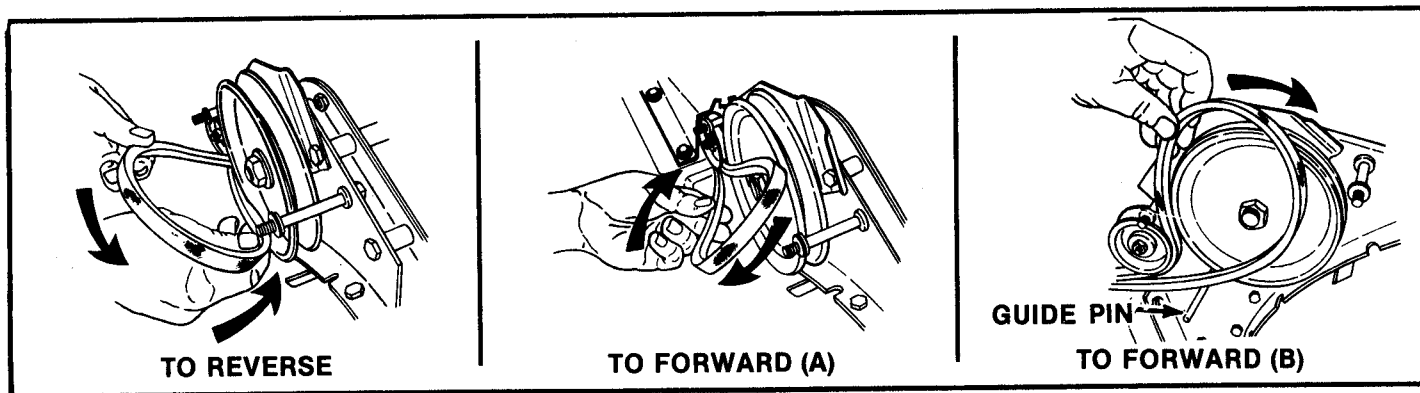

FIGURE 8 — TINE ROTATION BELT CHANGES
**CHANGE TINE ROTATION** with engine off as follows: Remove the wing-nut and washer on the front stud of the belt cover, pull the cover outward over this stud then swing the cover rearward and out of the way over the belt pulley. With the clutch control released, there is sufficient slack to slip the belt off the pulley for changing the arrangement as shown in figure 8.